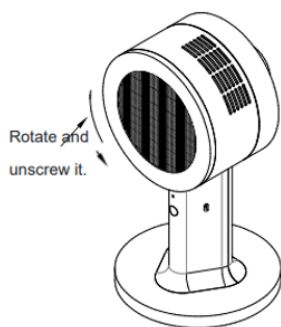

Fig. 1
1. Rotate the panel component [Fig. 1].